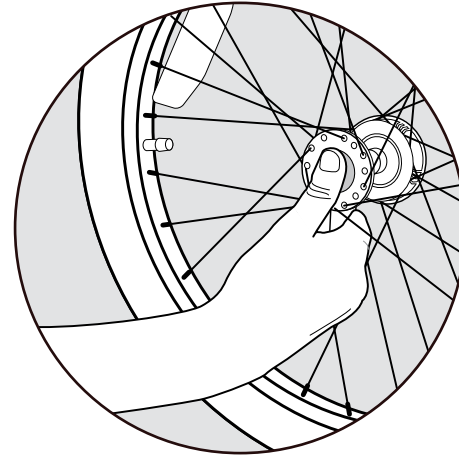

Figure 11
1. Push in the rubber button on the outside of the wheel hub (Figure 11).